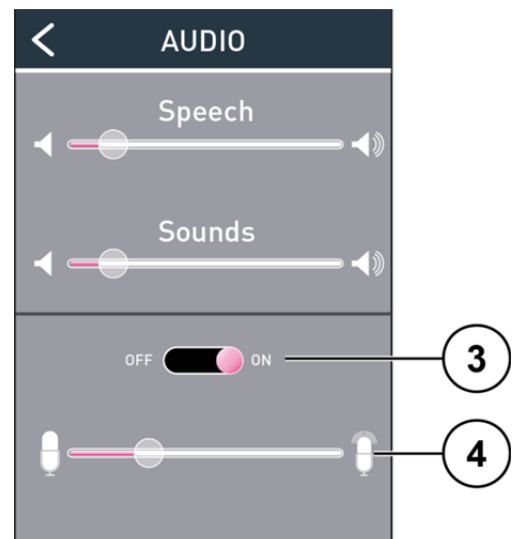

Fig. 16: Microphone settings
- analogue pre-amplification (Fig. 16).